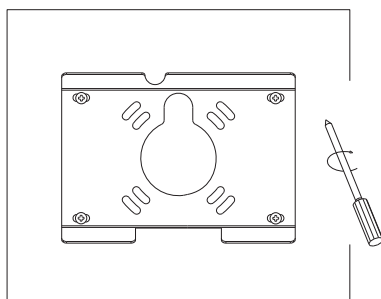

Figure 2-3
3. Align mounting bracket with hole; tighten screws. (Figure 2-3)